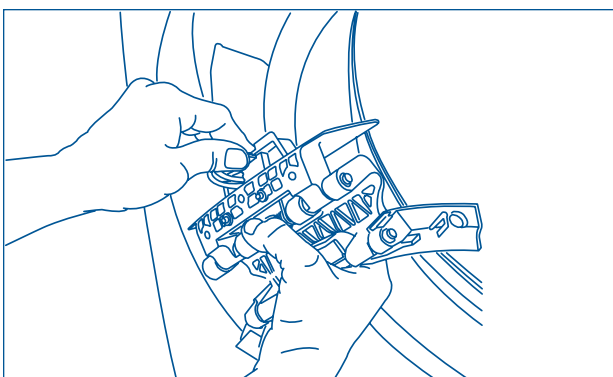

Figure 2-14.
4. Lift up on the tab and the release harness from the retainer, allowing the harness to lay outside the front panel. (See Figure 2-14)